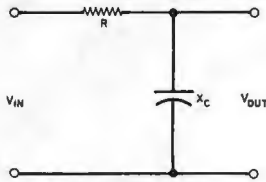

Fig. 1. An RC low-pass filter.
**Frequency Response.** One of the key terms used in discussing RC combinations is *frequency response*. Referring to Fig. 1, this concept is used to relate the input signal to the output signal. In descriptions of such circuits, we often come across such terms as the *corner* or *cut-off frequency*, or the *break*, *half-power* or *-3-dB point*. They all refer to a